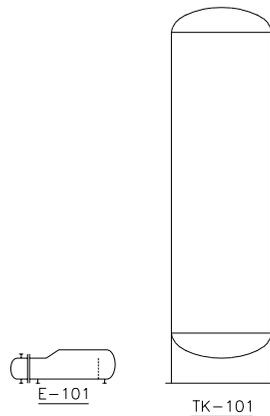

Figure 2-38 P&ID after placing the vessel and the heat exchanger
2. Enter **1.5** as the scale factor; the **Assign Tag** dialog box is displayed. Enter **101** in the **Number** edit box and make sure that the **Place annotation after assigning tag** check box is selected. Next, choose the **Assign** button and specify the position of the annotation tag near the vessel, as shown in Figure 2-38.
3. Choose the **TEMA type BKU Exchanger** from the **TEMA Type Exchangers** area in the **Equipment** tab of the **TOOL PALETTES - P&ID PIP** and place it at the point (7,5). Next, assign tag **E-101** to the heat exchanger. Figure 2-38 shows the P&ID after placing the vessel and the heat exchanger.